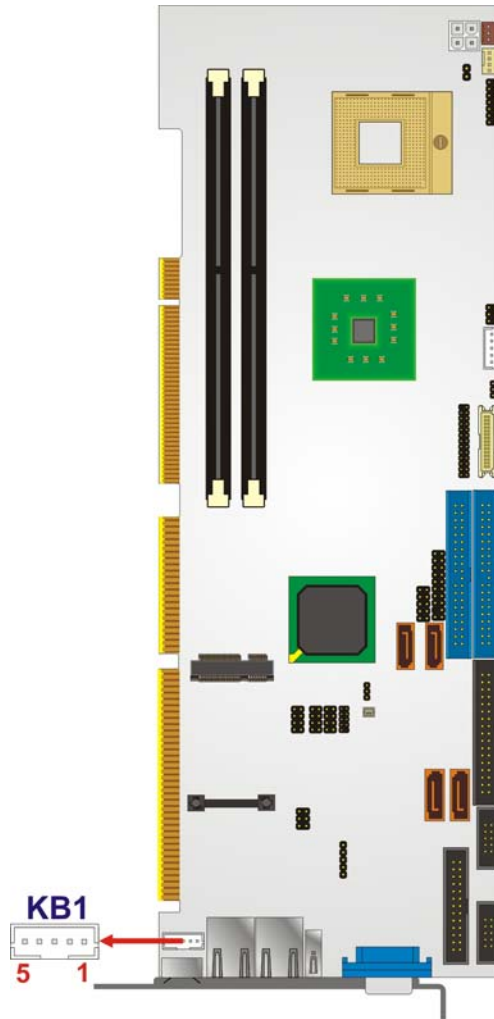

Figure 4-13: Keyboard Connector Location
- CN Location:** See **Figure 4-13**